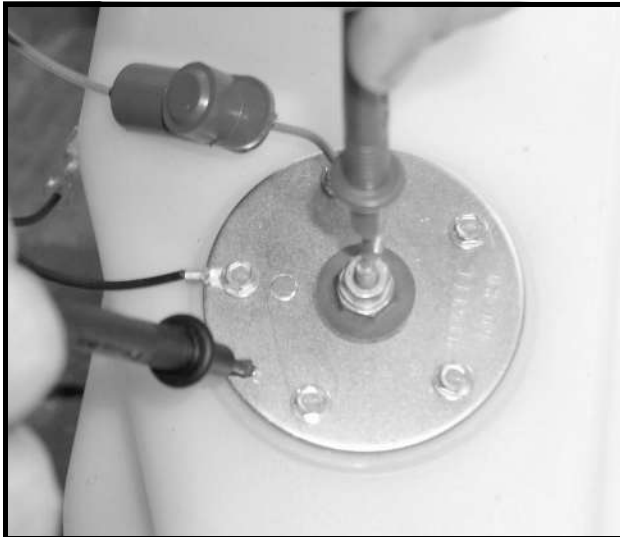

Figure 11a-27 Fuel Level Sending Unit Test
4. With a multimeter set to $2k \frac{3}{4}$ (ohms), place the red (+) probe on the center post of the sending unit. Place the black (-) probe on the ground connection of the sending unit (**Figure 11a-27, Page 11a-33**).